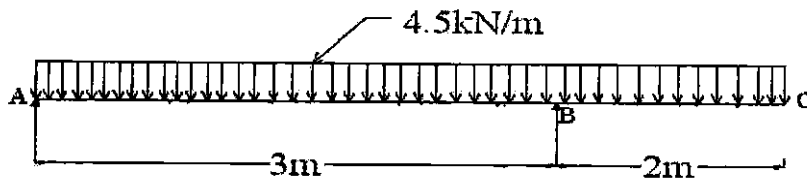

Fig. 5.1
5. (a) An overhang beam ABC is loaded as shown in Fig. 5.1. Draw the shear force diagrams and bending moment diagrams and find the point of flexure, if any : [7]